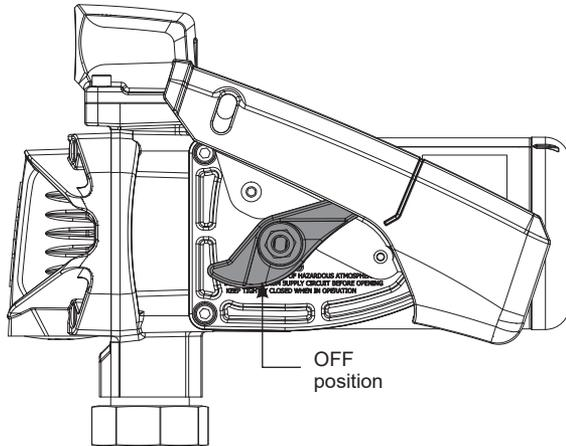

Figure 9
3. Place the nozzle into the nozzle holder on the end of the pump motor housing. Note that the nozzle cannot be placed in the holder unless the pump switch is OFF (see Figure 9).
IMPORTANT: Verify switch is in OFF position (see Figure 9), then route the power cord to the source of the vehicle power system. Be sure to support the power cord as necessary and protect it from sharp edges, heat, or anything that could damage it, resulting in a short circuit.
2. To reset, turn switch lever OFF and then back ON (see Figures 9 and 10).